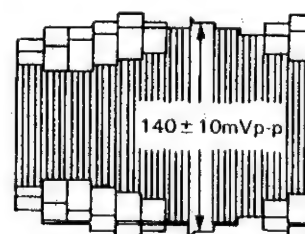

Figure 2-9.
4. Adjust R3304 (recording FM control) so that the sync tip be $140 \pm 10\text{mVp-p}$ as shown in Fig. 2-9.